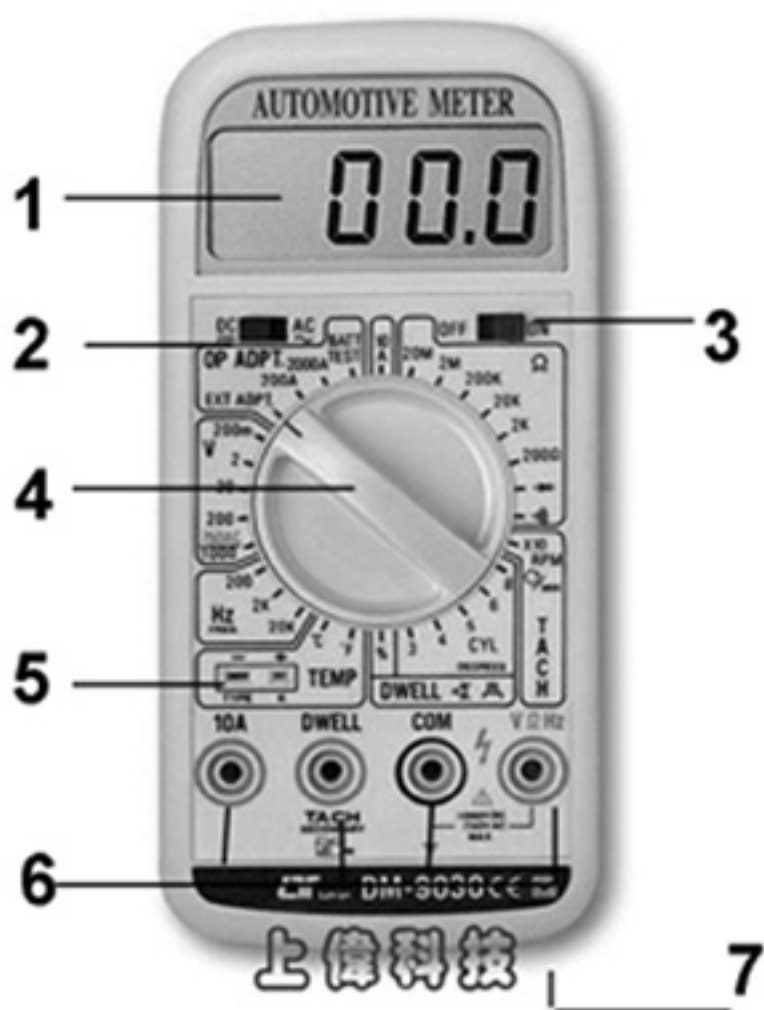

Fig. 1
- 1) Insert the plug of the Thermocouple Probe (optional) into the " Temperature Probe Socket " ( 3-5, fig 1 ) , take care to observe the correct polarity.